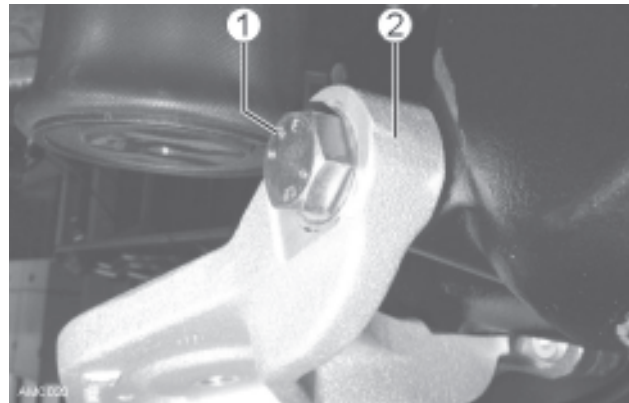

Fig. 47
14. Unscrew one M14x1.5x40 hexagon bolt (Fig 47 - 1) and remove the bottom bracket (Fig 47 - 2).